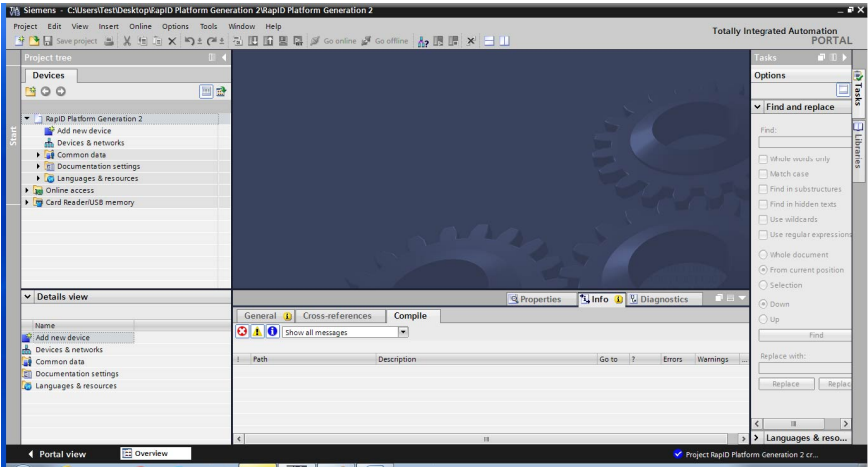

Figure 72. Main Test Project Window
6. When loading finishes, the main test project window displays (see Figure 72).